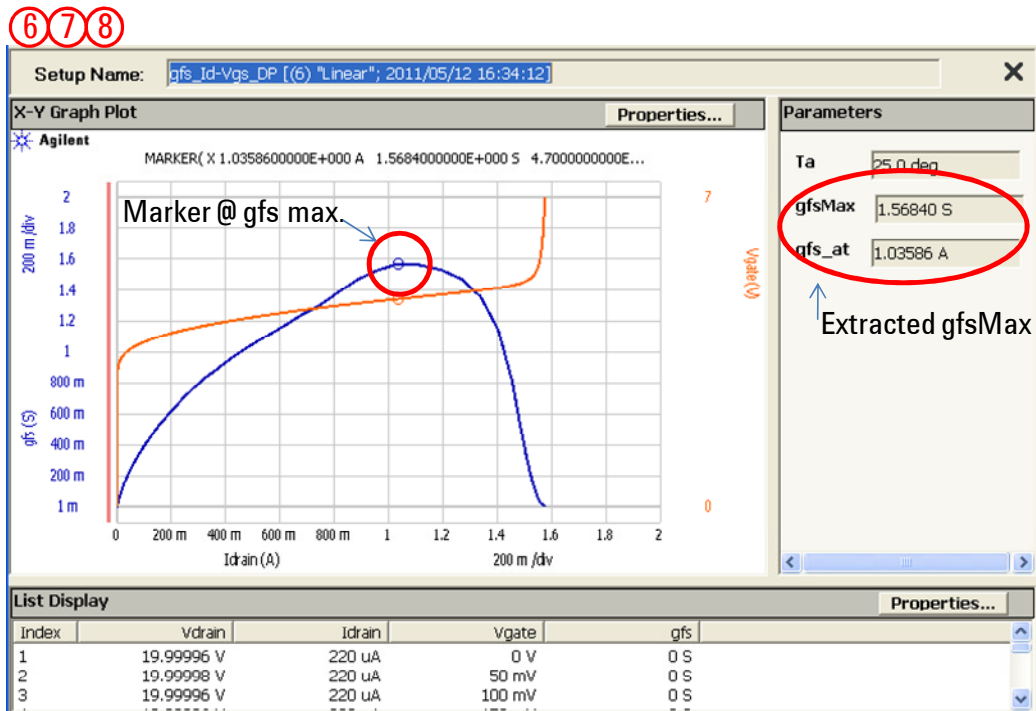

Figure 3-25. gfs\_Id-Vgs\_DP test results
Step 8. You can see the gfs\_Id-Vgs\_DP graph in figure 3-25.
Figure 3-25 plots gfs forward transfer conductance of drain to source in log scale in Y1 axis and corresponding gate voltage in Y2 axis versus drain current in X axis. Marker is automatically located to the maximum gfs point as shown in marked by circles on the figure. Extracted gfs and its drain current are shown as gfsMax in the Parameters display field.